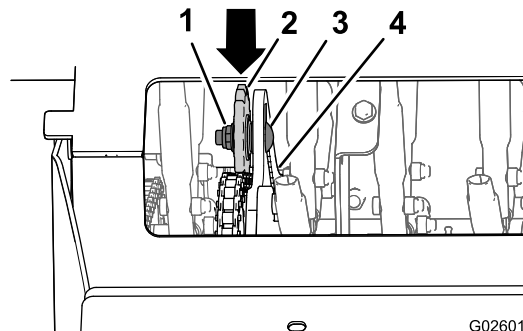

Figure 67
4. Loosen the locknut and carriage bolt that secure the idler sprocket (Figure 67).
- Push down and forward on the sprocket to increase the chain tension as shown in Figure 67.